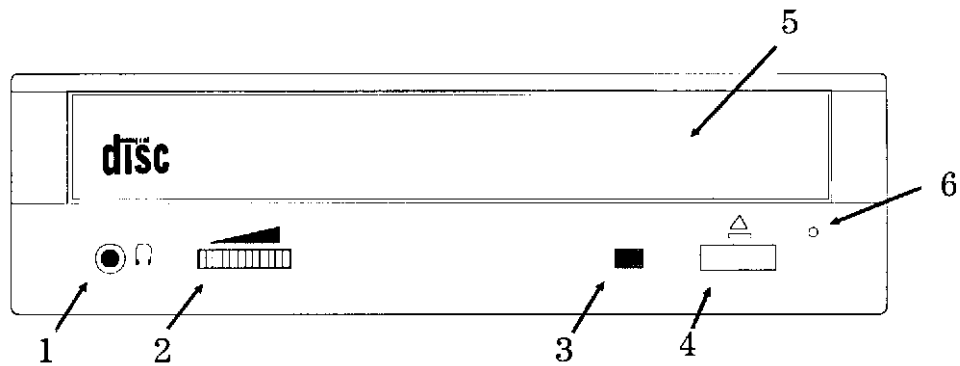

Figure 8-61. Front Panel Features
The HP A3416A CD-ROM drive front panel is shown in Figure 8-61:
<p>1. Press the Eject Button (refer to Figure 8-61). The CD tray will slide out of the drive. Note the position of the front retaining tabs (A, B) and rear retaining tabs (C,D)</p>
2. Press the Eject Button (see Figure 8-61).
1. Press the Eject Button (refer to Figure 8-61). The CD will slide out of the tray. Note the position of the top retaining tabs (A, B) and bottom retaining tabs (C, D).
2. Press the Eject Button (see Figure 8-61). The CD tray will slide out.